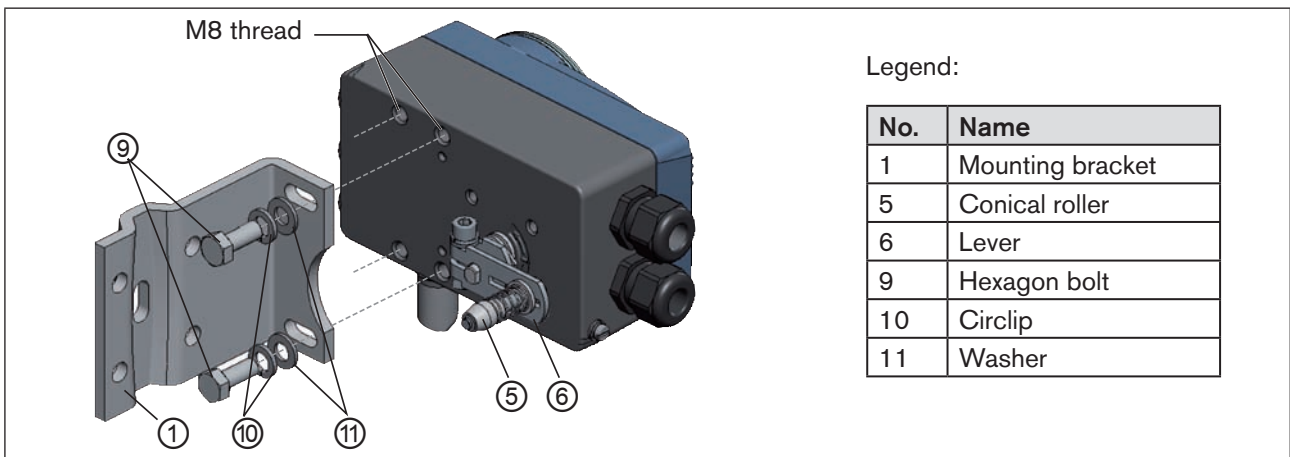

Figure 16: Attaching mounting bracket
→ Attach mounting bracket ① to the back of the Type 8792/8793 with hexagon bolts ⑨, circlip ⑩ and washers ⑪ (see “Figure 16”).
The conical roller ⑤ on the lever ⑥ of the position sensor must be able to move freely in the hoop (refer “Figure 16”) along the entire stroke range of the actuator.